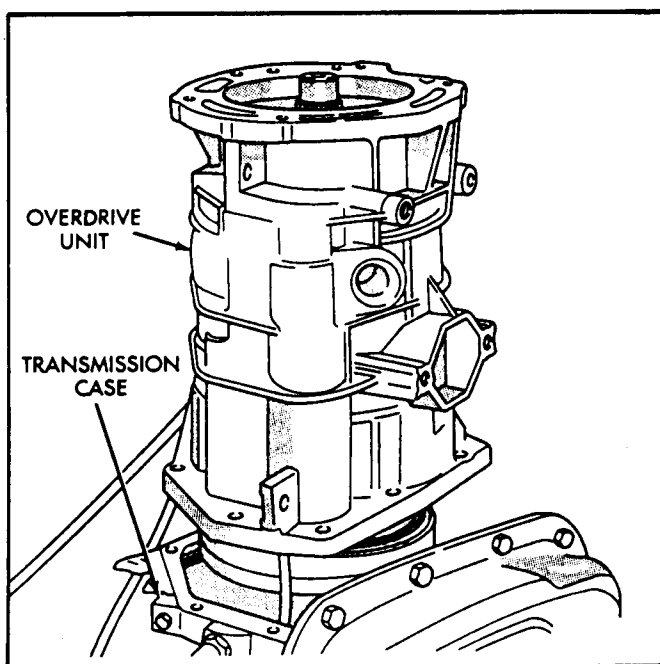

Figure 4
9. Lift overdrive unit up and off of the transmission intermediate shaft, as shown in Figure 4.